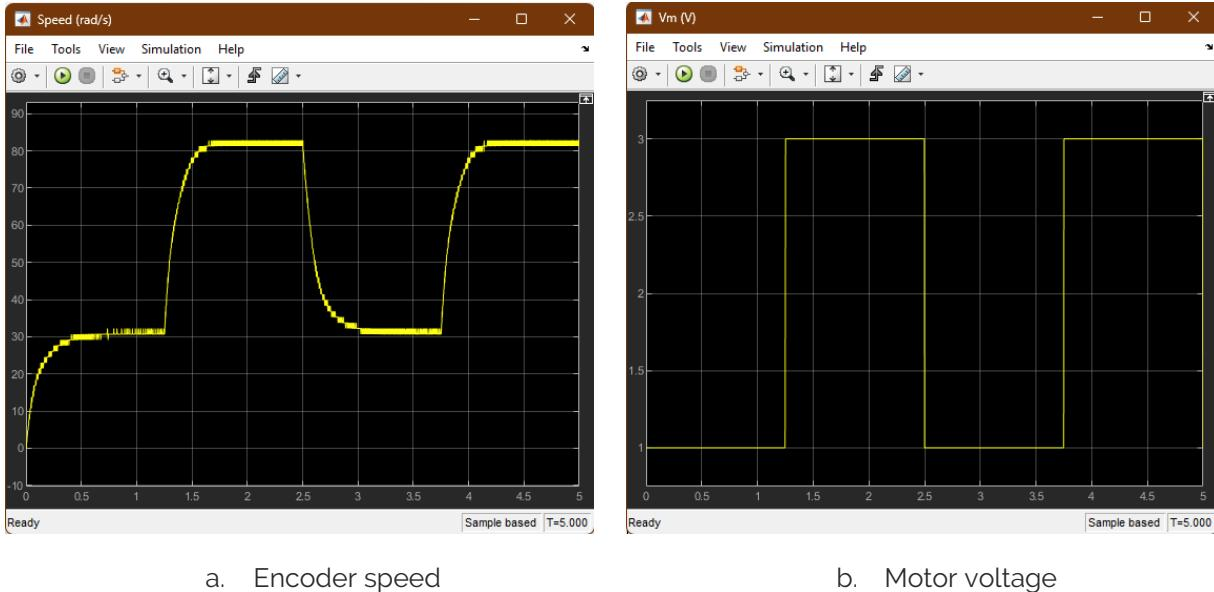

Figure 2. Measured servo speed using encoder
5. Build and run the QUARC controller using the **Monitor & Tune** button on the **Hardware** tab. For more information on this, refer to the **Hardware Interfacing** lab. Examine the encoder speed response and motor voltage plots, and take screenshots. They should look like Figure 2.